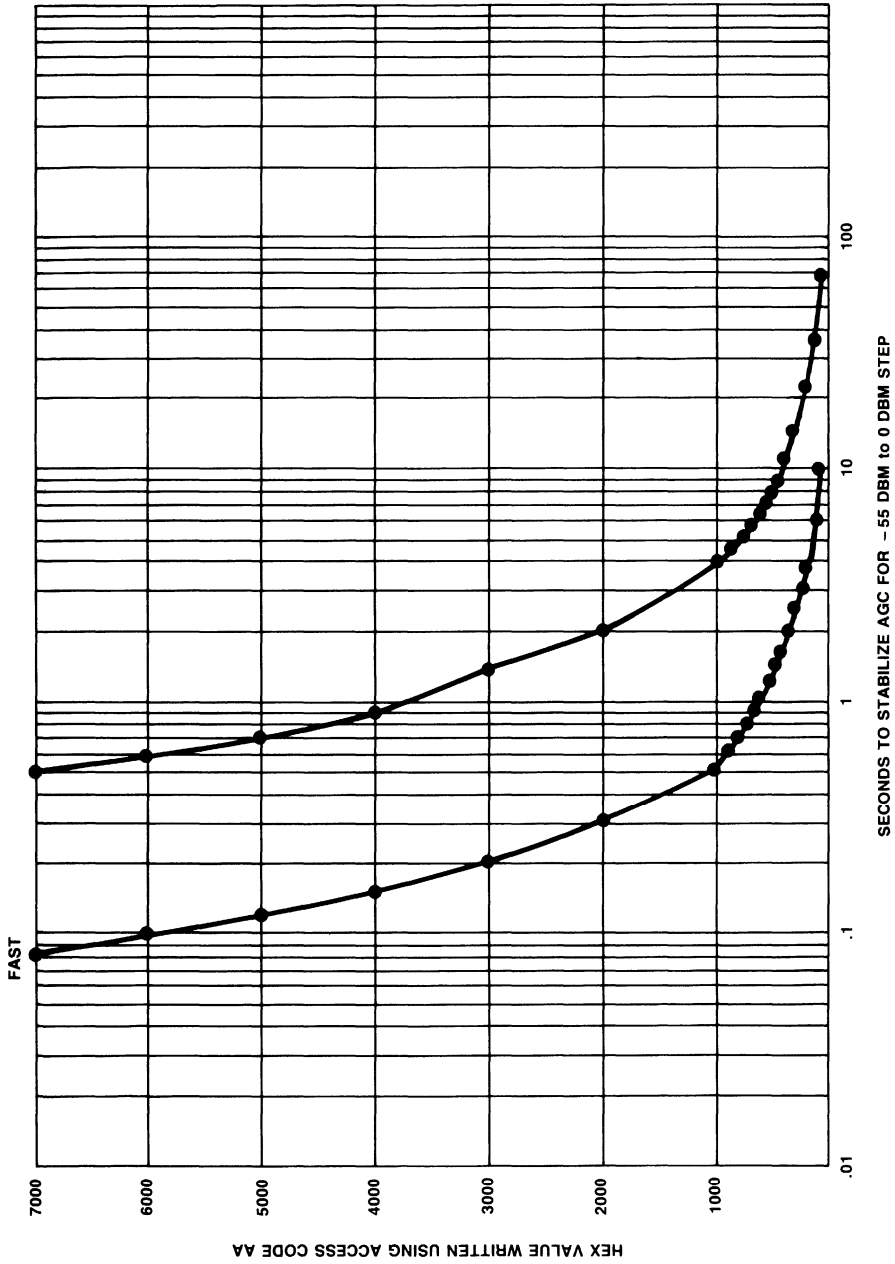

Figure 2. AGC Slew Rate
3. Access code AA represents the AGC slew rate. Range = 0000 to 7FFF in hexadecimal. Scaling: see Figure 2.